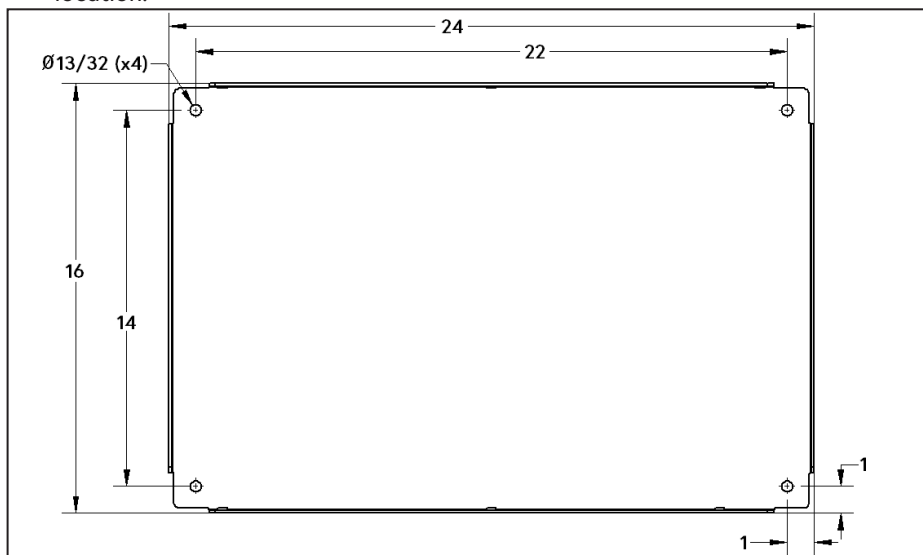

Figure 6 — Mounting dimensions (in inches)
- ☐ Mount the unit (Figure 6).